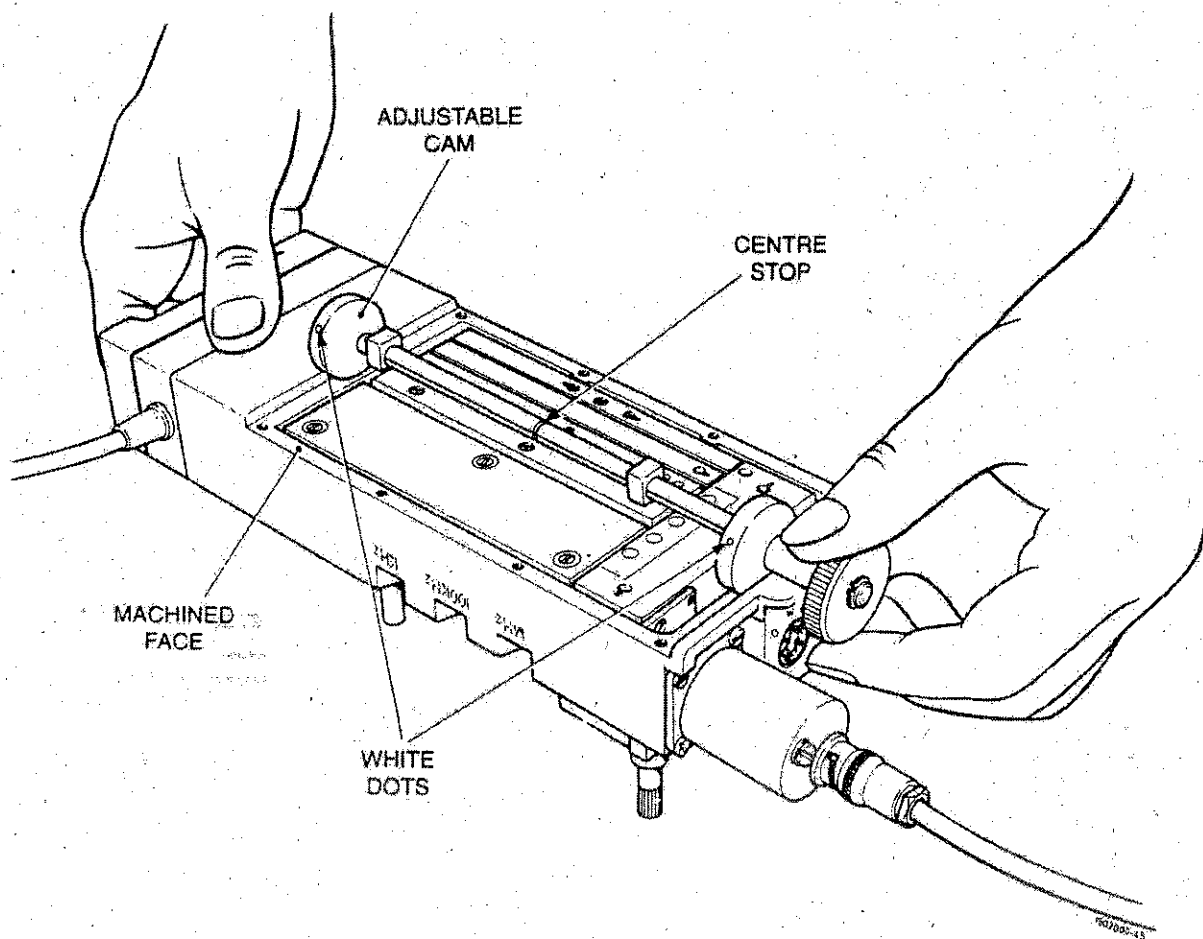

Fig 2 Use of assembly extractor tool
30.2 With reference to Fig 2, place the assembly extractor tool above the assembly to be withdrawn with each cam in contact with the machined face on the box or the motherboard assembly test jig (Table 2, Serial 1).